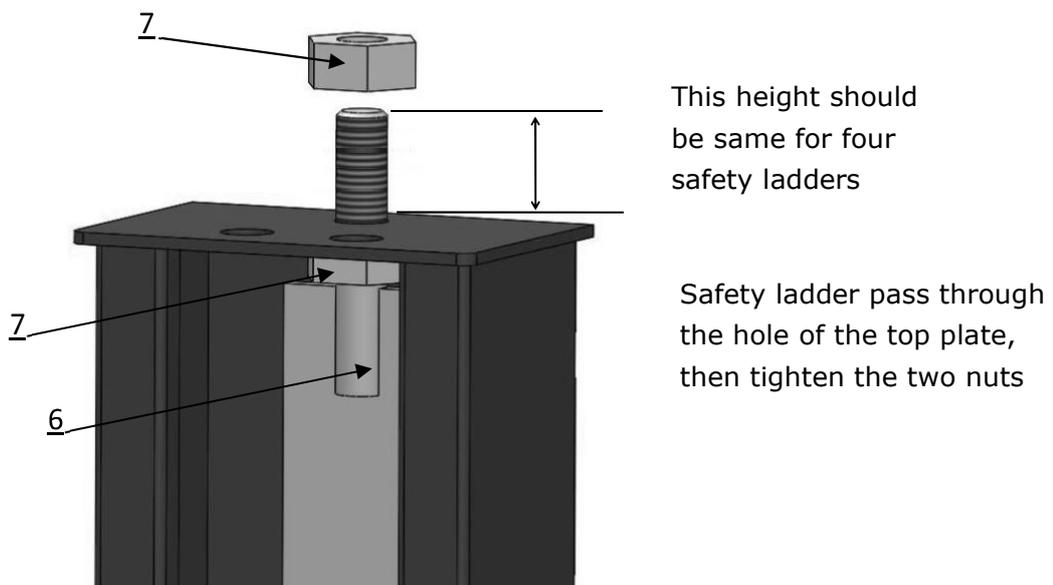

Fig. 17
2. Install safety ladders (See Fig. 17)